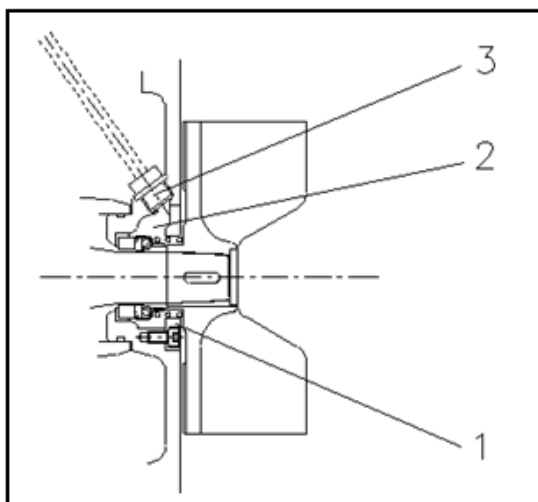

Fig. 10.1
- Optional, the pump can be delivered with a seal flushing connection. See fig.10.1
- A ring , pos. 1, is mounted in the seal housing, with a small fitting around the impeller hub or sealing parts.
- The flushing water inlet is connected to pos. 3.
- The flushing water keeps the sealing room pos.2 behind the impeller free from the pumped liquid.